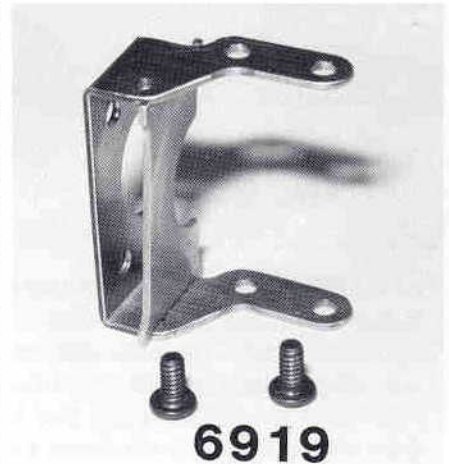

Fig. 92
- **Fig. 92** Remove the two #6919 4-40 x 5/16" BHSScrews from bag 7-13. If you look closely at the steel brake shoe you will see that each corner of the shoe has a little tip designed to hold the shoe onto the steel brake bracket without hardware. The brake shoe has sharp edges around one side. This side should face the disk. Slide the brake shoe onto the brake bracket so that the side with the rounded notch in the center is on the same side as the matching notch in the brake bracket.